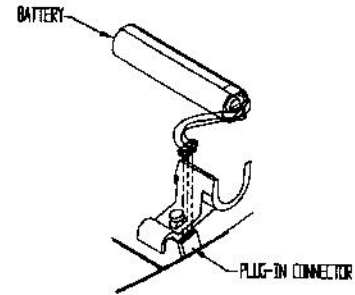

Figure 5-2: Plug-in connector
2. Gently lift the black battery plug-in connector (see Figure 5-2) from the white socket taking care not to pull on the wires. Remove the battery pack from the housing.